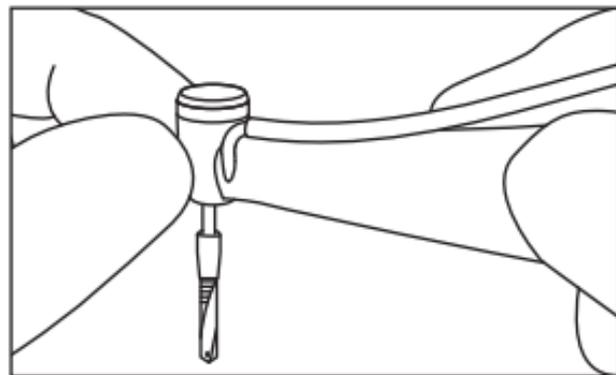

Fig. 9
- 5) After the handpiece rotation has completely stopped, touch the handpiece head to confirm the head is NOT heating abnormally. (Fig. 9)